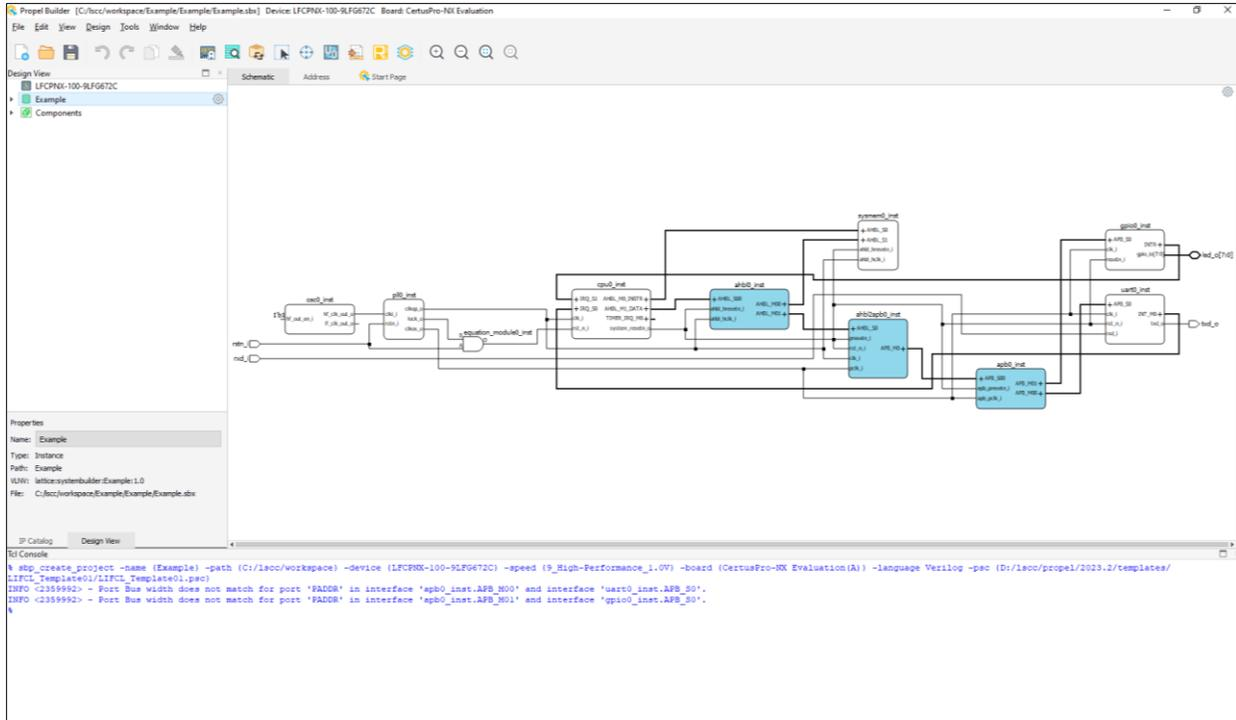

Figure 2.9. Propel Builder GUI showing Template SoC Project
- Click **Finish**. Propel Builder GUI opens (Figure 2.9).